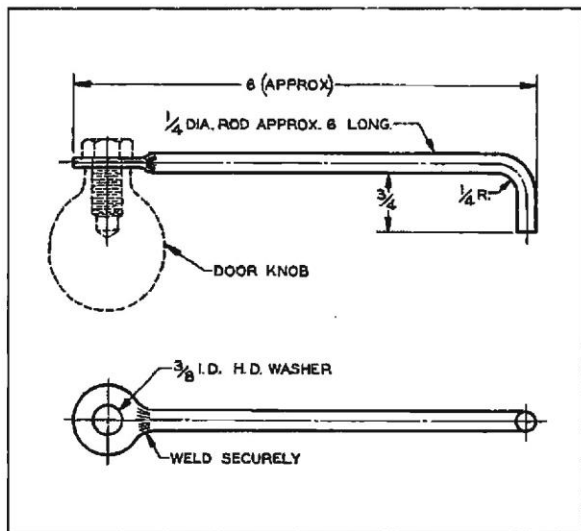

Fig. 4-16 Differential Cranking Tool
3. Insert crank (Fig. 4-16) in companion flange and, while turning, apply pressure to back side of ring gear with hand (a leather glove can be used). A test made without loading the gears will not give a satisfactory pattern. Turn companion flange with crank so that ring gear rotates one full revolution, then reverse rotation so that ring gear rotates one revolution in opposite direction. Excessive turning of ring gear may indicate good tooth pattern because one or two teeth are making proper contact.
NOTE: The crank in Fig. 4-16 may be easily made as follows: